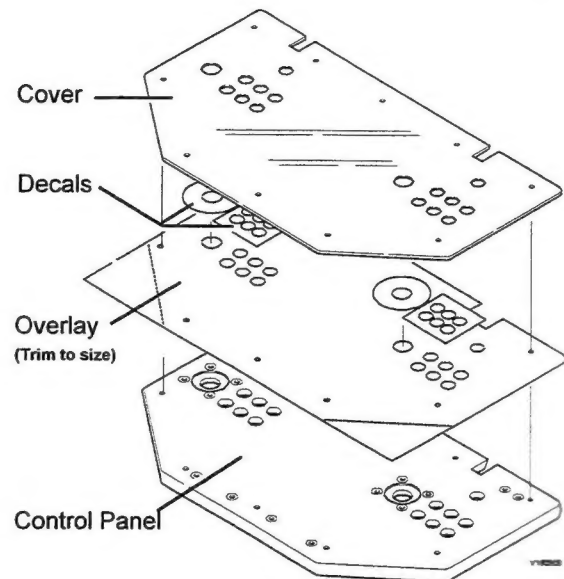

Figure 1: Overlay Installation
6. If there is an additional Control Panel Cover, figure 1 (such as plastic or lexan) that will be utilized cut any additional holes using the same template.
CONTROL PANEL OVERLAY INSTALLATION (See Figure 1)
14. Install the control panel cover, figure.1. (If required).